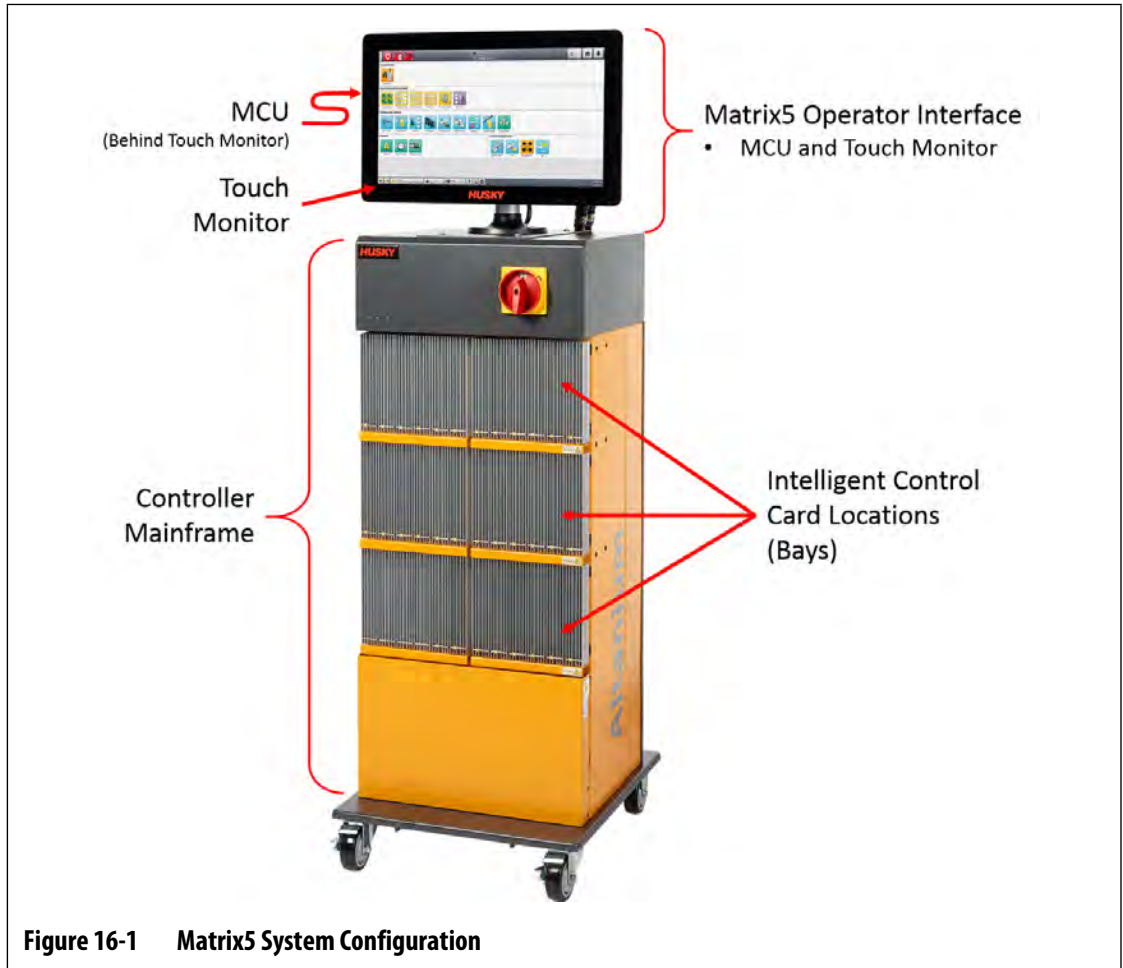
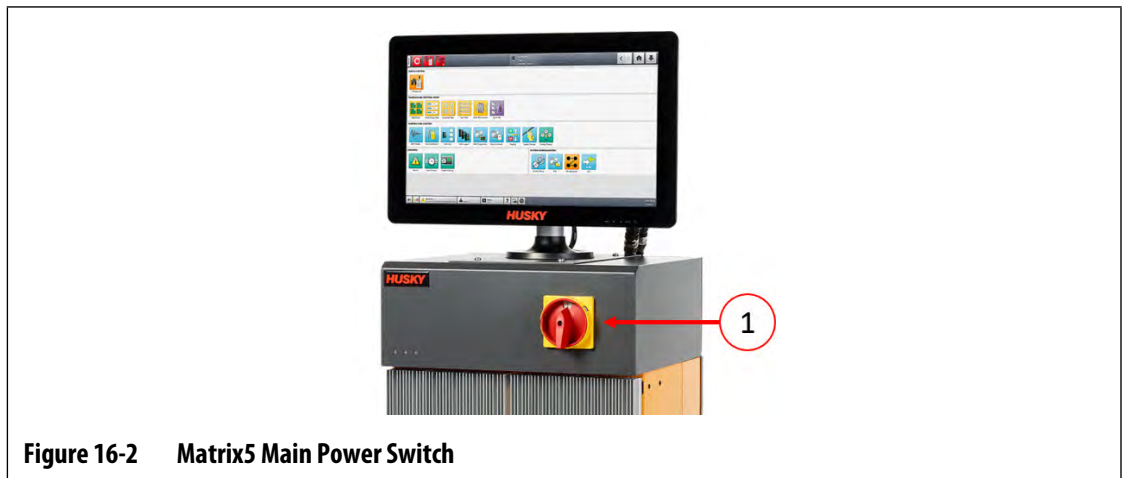

Figure 16-1 Matrix5 System Configuration
Figure 16-2 Matrix5 Main Power Switch
The Altanium operator interface display module is used to enter and display molding parameters. Refer to Figure 16-1. Before doing maintenance on the Matrix5 system, always de-energize the system at the Altanium main power switch. Refer to Figure 16-2. Do the lock out and tag the Altanium main power switch in accordance with local codes.
2. De-energize the system at the Altanium main power switch. Refer to Figure 16-2.